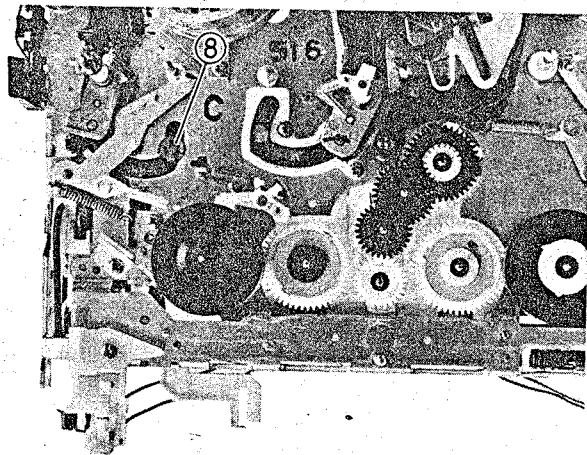

Fig. 2-112 Supply and Take-up Loading Cam Gears Removal
8. Remove one (1) E ring. (See Fig. 2-112)